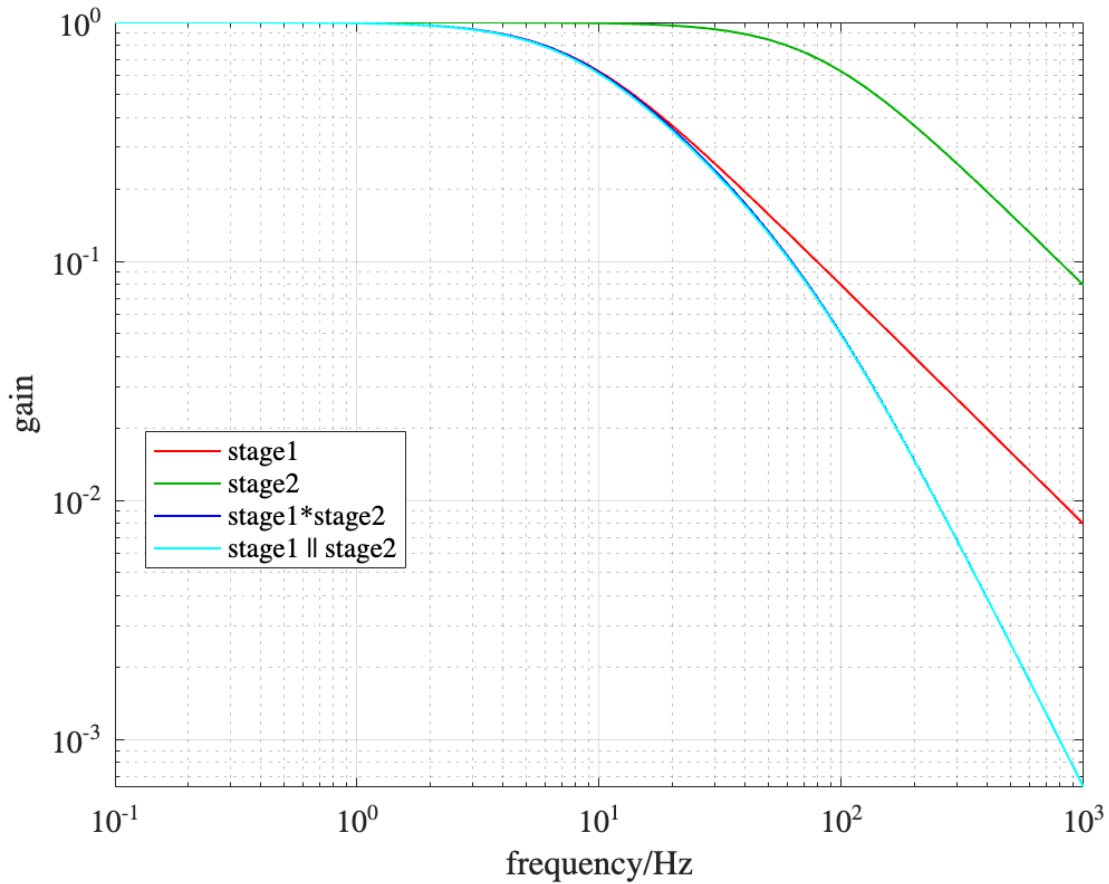

Figure 10. Reversing the stages so $R2 \gg R1$ reduces loading on stage1 by stage2, and the stages behave independently.
7. We don't (yet) have a function generator to measure frequency response curves. We will construct one soon, automate its frequency control, and measure curves like Fig. 10 in seconds. But at this point we have confidence in our parallel impedance model because it matches theory at the two frequencies that we measured, $0 = \text{DC}$ and 980Hz . (Note: a trick to measure frequency response without a function generator is with a square wave, since they consist of many harmonics (Fig. 12). The SNR of the harmonics generally decreases with $1/n$, so "sweeping" a sine wave can be a more accurate, but slower, method.